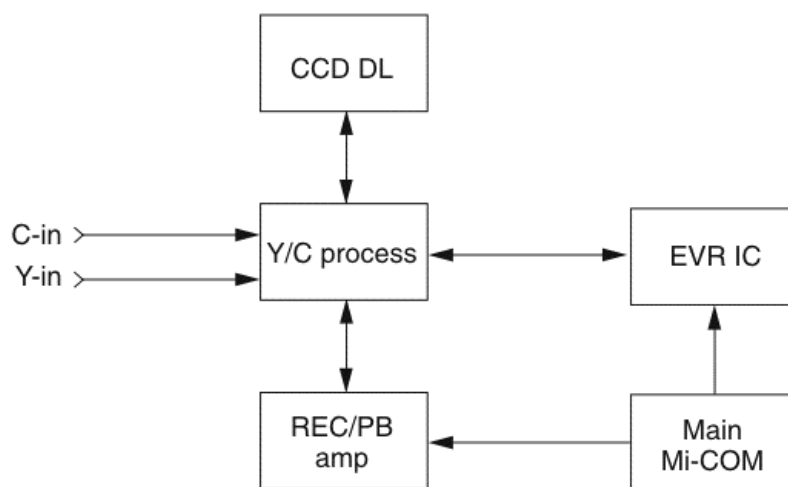

FIGURE 33-20 In the newer Canon 8-mm camcorder, the luma (Y) and chroma (C) are all included in a single Y/C process IC.
Canon Y/C signal processing In the conventional Canon models, two ICs were used for the luminance (Y) and chroma (C) process within the signal-processing circuits. In the 8-mm camcorder signal-processing circuit, the luminance and chroma signals are processed in one single IC chip. Likewise, the EVR (electronic volume) arrangement is found within recorder (REC/PB amp) and EVR IC, taking up less space (see Fig. 33-20).